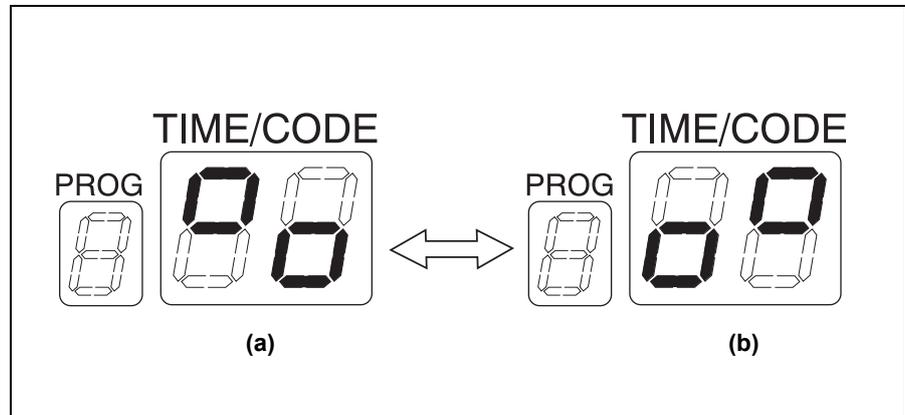

Figure 7.78
13. The buzzer generates short beeps and the TIME/CODE display on the main control panel alternately displays (a) and (b) in Figure 7.78, indicating that the disinfectant solution is being prepared.
- Preparation of disinfectant solution includes single rinse process to rinse the reprocessing basin, and the required time for preparation of disinfectant solution is about 5 minutes. While executing the preparation of disinfectant solution, buzzer beeps intermittently and the main control panel displays as shown in Figure 7.78. STOP/RESET button is deactivated during the process.